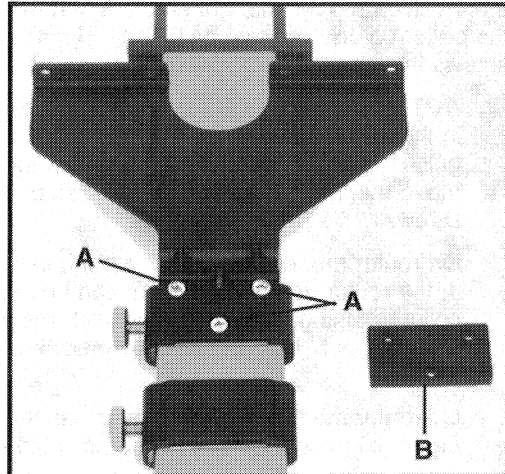

Fig. 6
1. Remove three screws (A) Fig. 6, from edge guide, guide plate. (Store screws for future use).
2. Place edge guide spacer (B) Fig. 6, between guide plate and slide. Secure with three #10-24 x 5/8" screws, from hardware package.